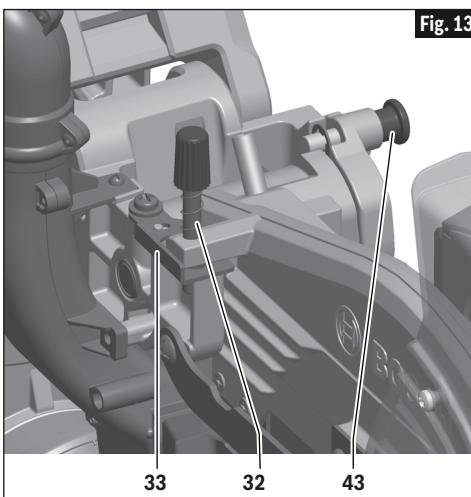

Fig. 13
1. When making normal full-depth cuts, push the depth stop plate **33** in toward the saw head (see Fig. 13). This will allow the depth stop screw **32** to pass through the hole in the plate.